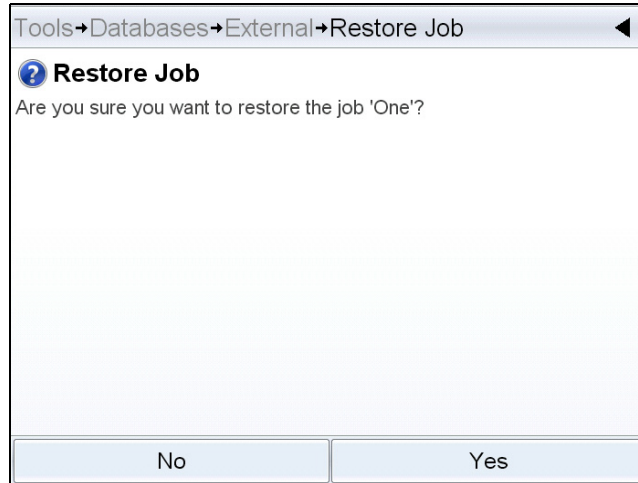

Figure 6-19: Confirmation Screen
- 15 Touch  to restore a job. A confirmation appears (Figure 6-19). Touch Yes to confirm.